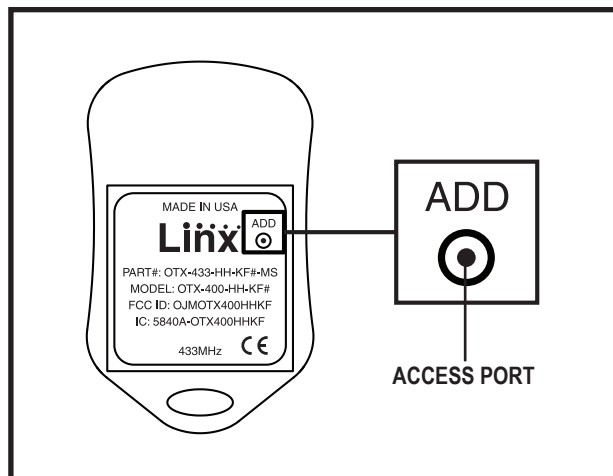

Figure 4. Access Port
2. Insert a thin wire, such as a paper clip, into the access port. **See figure 4.**